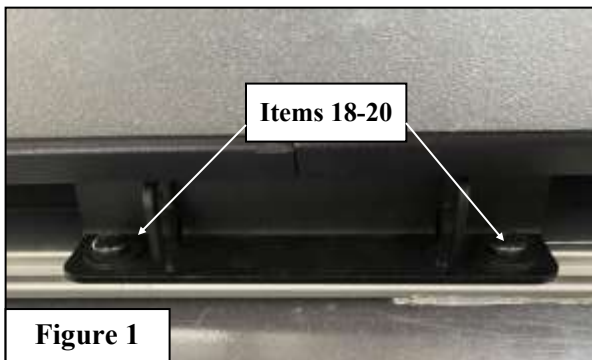

Figure 1
3. Using the M8 Hardware (**Items 19-21**) provided, loosely secure **1x Front Rail Support Brackets (Item 9)**, **3x Rail Support Bracket (Item 10)**, & **1x Rail Support Link Bracket (Item 11)** on both the Driver and Passenger side. See **Figure 1, 2, 6 & 7** for reference. **Note:** Make sure the Front Rail Support Brackets (**Item 9**) is placed furthest to the front of the roof rail.